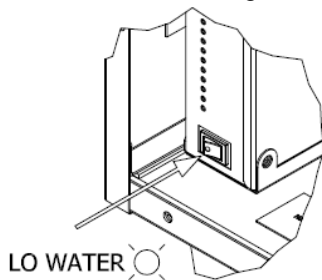

Fig. 7
2. Press clean switch on the main control box. The machine will drain and the LOW WATER and MAINTENANCE/CLN light will come on. (Fig. 7)